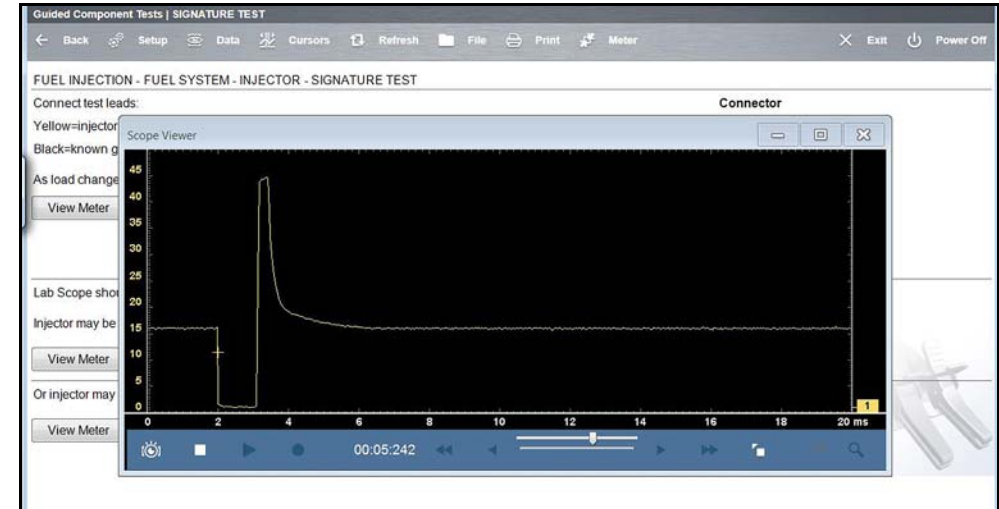

Figure 7-8 Sample meter view in a separate window
2. Select the **Meter** icon a second time and the meter will open as a separate window (*Figure 7-8*). This window can remain open if you switch to the Scan Module and can be accessed from the Windows toolbar at the bottom of the screen. You can also resize and reposition the meter window on the screen.